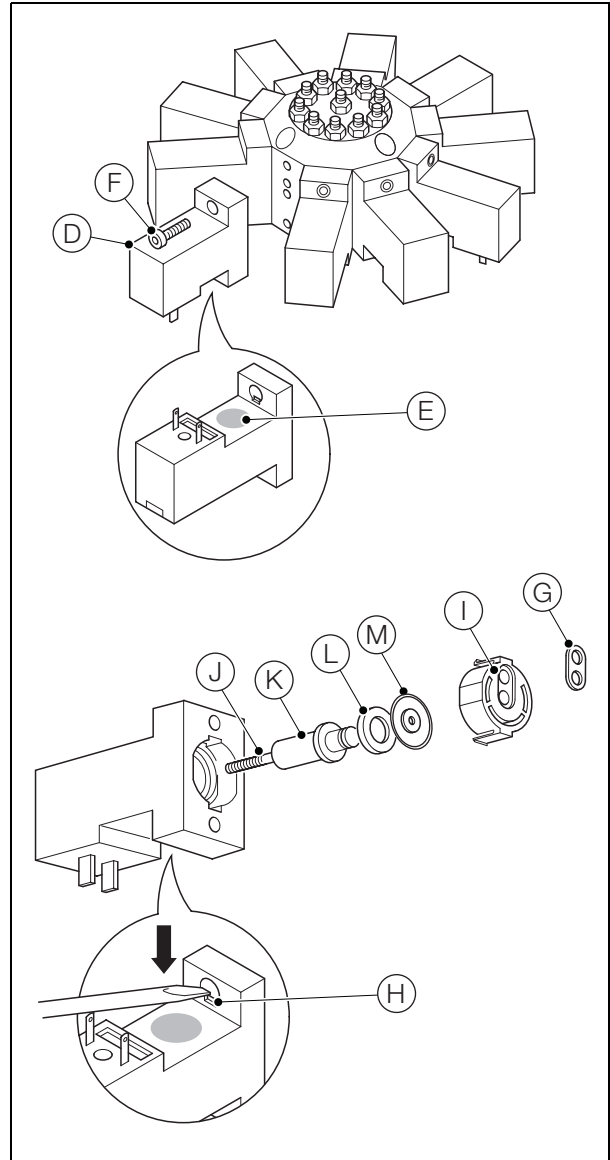

Fig. 12.2 Removing the Waste Valve
5. Referring to Fig. 12.2:
- a. Locate the waste valve (D), identified by an orange colored label (E) on the back of the valve.
- b. Remove the 2 M3 screws (F) securing the valve to the manifold and remove the valve. Discard the valve face gasket (G).
- c. Using a small screwdriver, depress the retaining clips (H) and remove the diaphragm seat (I).
- d. Turn the valve over and, taking great care not to lose spring (J), allow the diaphragm retainer (K), complete with washer (L), diaphragm (M) and spring (J) to fall out.
- e. Remove the diaphragm (M) from the diaphragm retainer (K) and discard.
- f. Fit the new Kalrez diaphragm, ensuring washer (L) remains in place below the diaphragm.